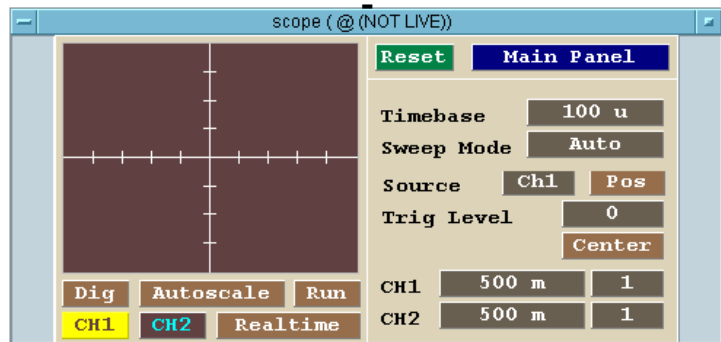

Figure 87 Selecting **scope(@(**NOT LIVE**))**
- Place the outline of the scope panel and click to place it. The display should look similar to Figure 87.